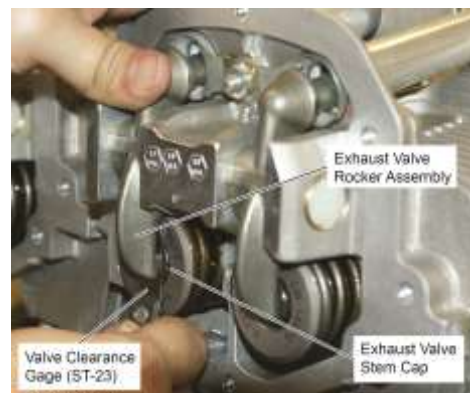

Figure 47
- (b) Use a Valve Clearance Gage (ST-23) (Figure 45) to measure the distance between the end of the valve rocker assembly and the valve stem cap (Figure 47).